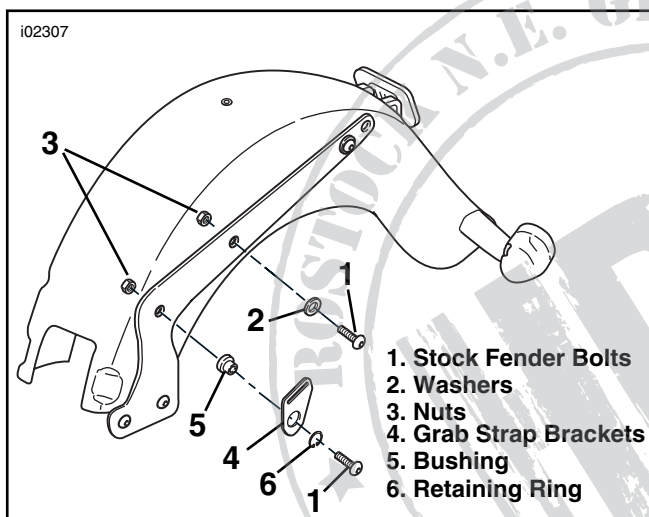

Figure 5. Fender Hardware Removal (Left Side), 2000 Through 2002 FLSTC and FLSTF
1. See Figure 5. Remove the two forward rear-fender bolts (1), washer (2), nuts (3), grab strap bracket (4), bushing (5) and retaining ring (6) on the left side of the vehicle. Discard the bolts, but save all remaining hardware for re-use.